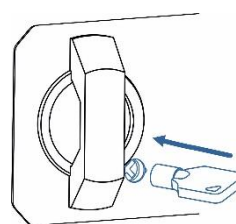

Fig. 5.3
- Insert the key against the stop (key's flag on the right) and turn it anti-clockwise until it stops (Fig. 5.3).
- Press the new battery to emergency power pins (6) and fix it in this position (see Image 5.4)